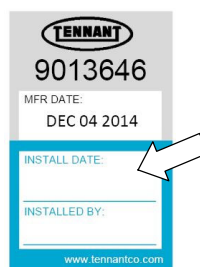

FIG. 129
4. Fill in the installation date on the new cartridge label (Figure 129).